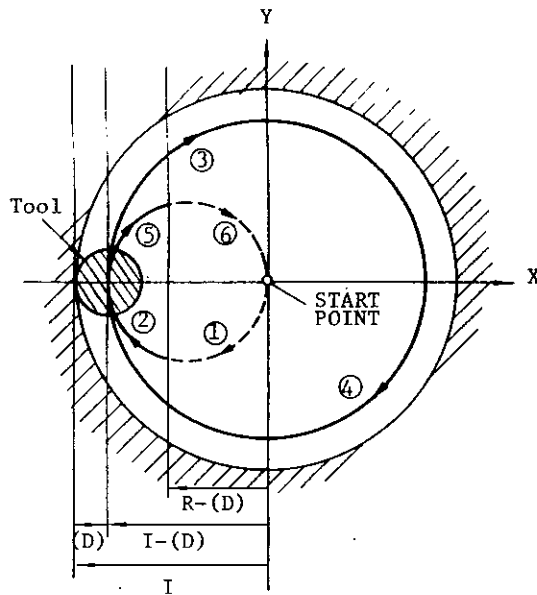

Fig. 2.23
- In the explanation above, only motions in the + direction of X-axis is considered. With proper use of signs for I, J, K and D codes, motions in the - direction of X-axis (symmetrical with respect to Y-axis) can be commanded. In Fig. 2.23, signs of I, R and (D) are minus. However, cutting in the Y-axis direction is impossible.